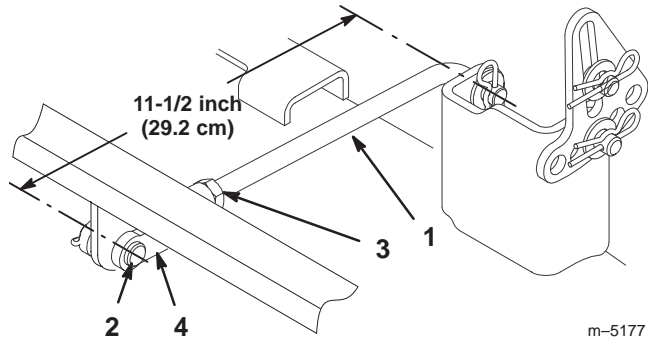

Figure 41
4. Measure the length of the rear trunion rod (Fig. 41). If the rod length is not 11-1/2 inch (29.2 cm), remove the clevis pin and cotter pin from the end of the rod (Fig. 41), loosen the jam nut, and turn the yoke until the 11-1/2 inch (29.3 cm) dimension is obtained. Then secure the yoke with the clevis pin and cotter pin. Repeat this procedure on the opposite side of the mower.
10. When the front-to-rear blade slope is correct, tighten the jam nuts (Fig. 41 and 43).